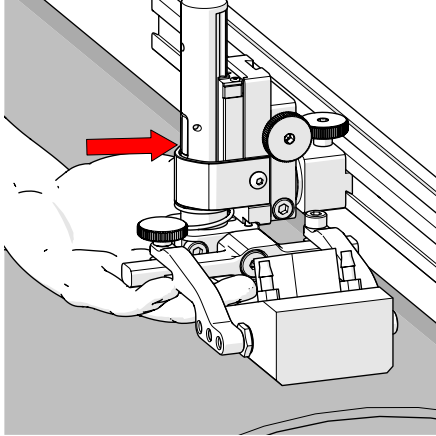
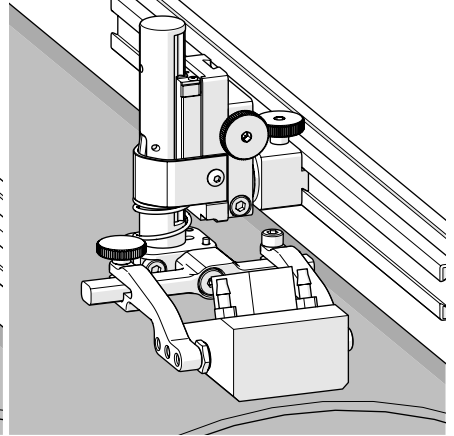

Fig. 179 - Press latch button
Fig. 180 - Lower toward scan surface
4. Lift the yoke slightly and press the latch button (Fig. 179), then slowly lower towards scanning surface to apply spring pressure to the wedge (Fig. 180).